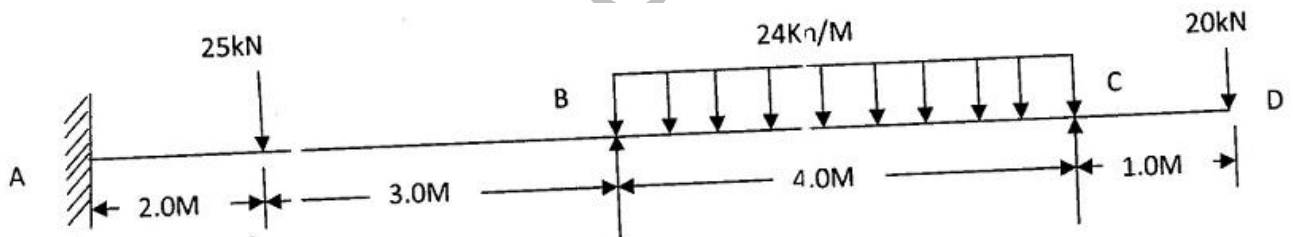

Fig. 4
- 15 Analyse the beam shown in Fig. 4 using flexibility method and draw the BMD. Assume EI is the same for all the members.